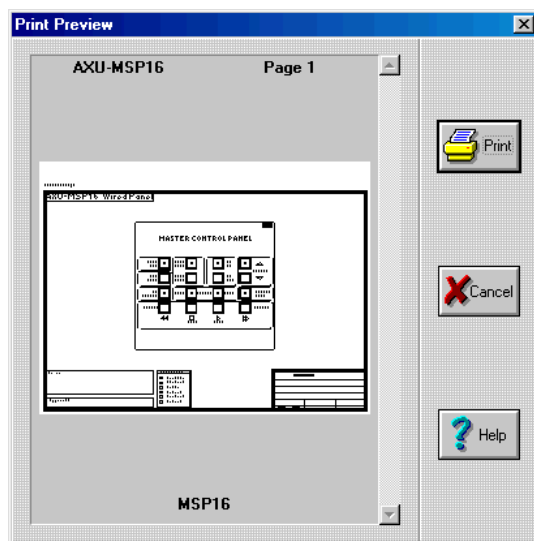

FIG. 18 Print preview dialog
- **Print Preview:** Open the target program file. Then, click File > Print Preview to open the Print Preview dialog (FIG. 18).